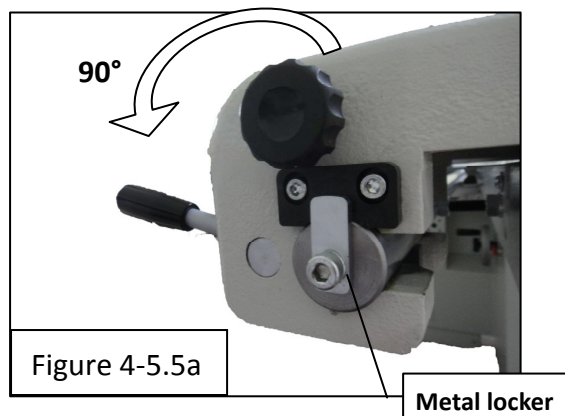

Figure 4-5.5a
3. Lift the whole rip fence unit and turn it **90° counter clockwise**. (Fig. 4-5.5a&b)